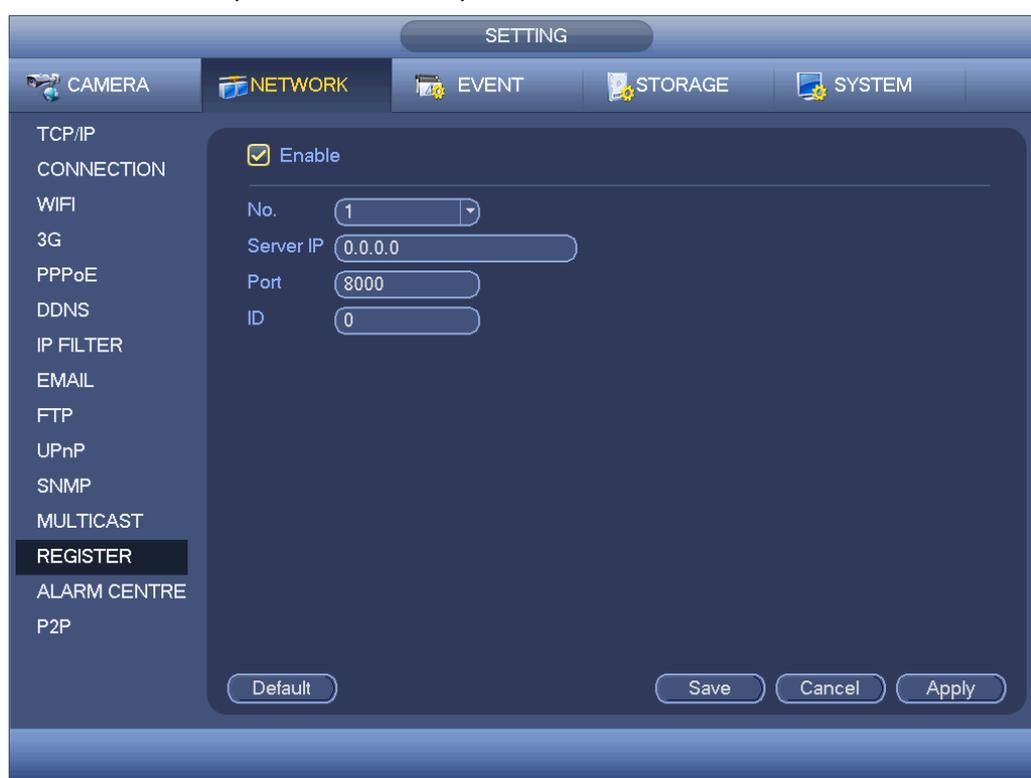

Figure 4-99
1) The setup interface is shown as in Figure 4-99.
3) Now you can add device. Please do not input default port number such as the TCP port in the mapping port number. The device ID here shall be the same with the ID you input in Figure 4-99. Click Add button to complete the setup.